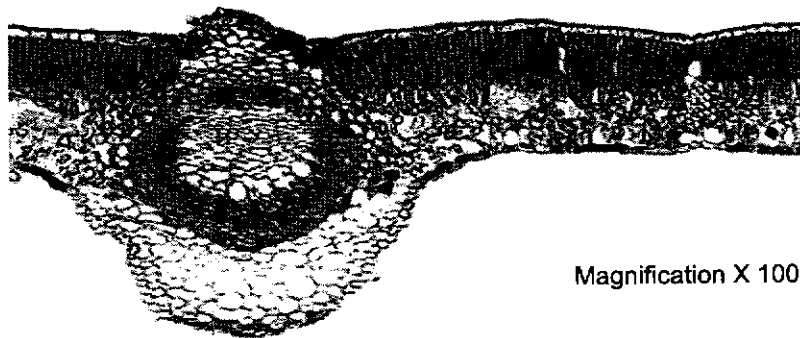
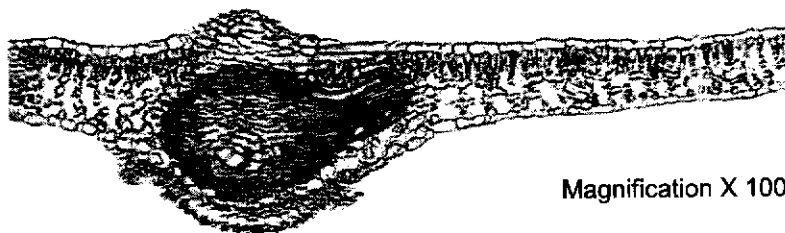

Fig. 3.3
Fig. 3.4
(d) Fig. 3.3 and Fig. 3.4 are photomicrographs of transverse sections (TS) of leaves from the same plant.
Record **one** observable differences between Fig. 3.3 and Fig. 3.4. in Table 3.1.
| feature                     | Fig. 3.3                              | Fig. 3.4                              |